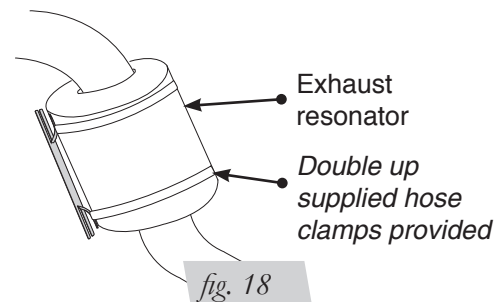

fig. 18
2. Attach the heat shield to the exhaust pipe using the clamps. Bend the heat shield for maximum clearance to the air spring (Fig. 18).
Some vehicles have large resonators in this area, it will be necessary to double up on the clamps to fit these models (Fig. 18).